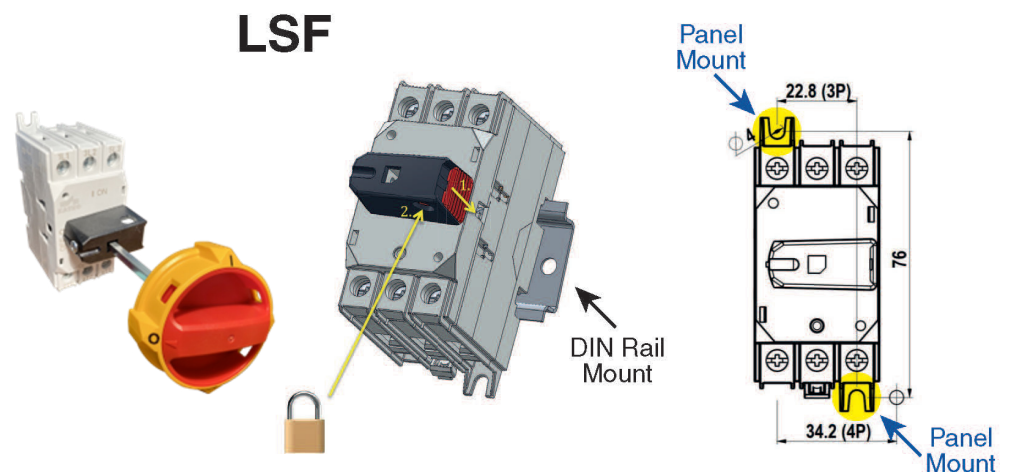

Figure 1: The extended handle application uses a long shaft that sticks out beyond the electrical box for easy access.
The first option is an extended handle application where the shaft sticks out beyond the electrical box for easy access and interlocks with an external handle so that the box cannot be opened until power is turned off (see Figure 1). Frame size it only 36mm (W) x 71mm (H) x 46mm (D), without integrated switching knob and panel mount tabs.